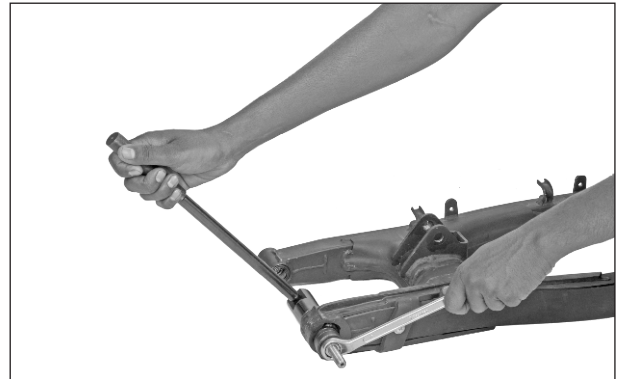

Fig. 6.147
- Reassemble the needle bearing using the special tool. (Fig. 6.147)